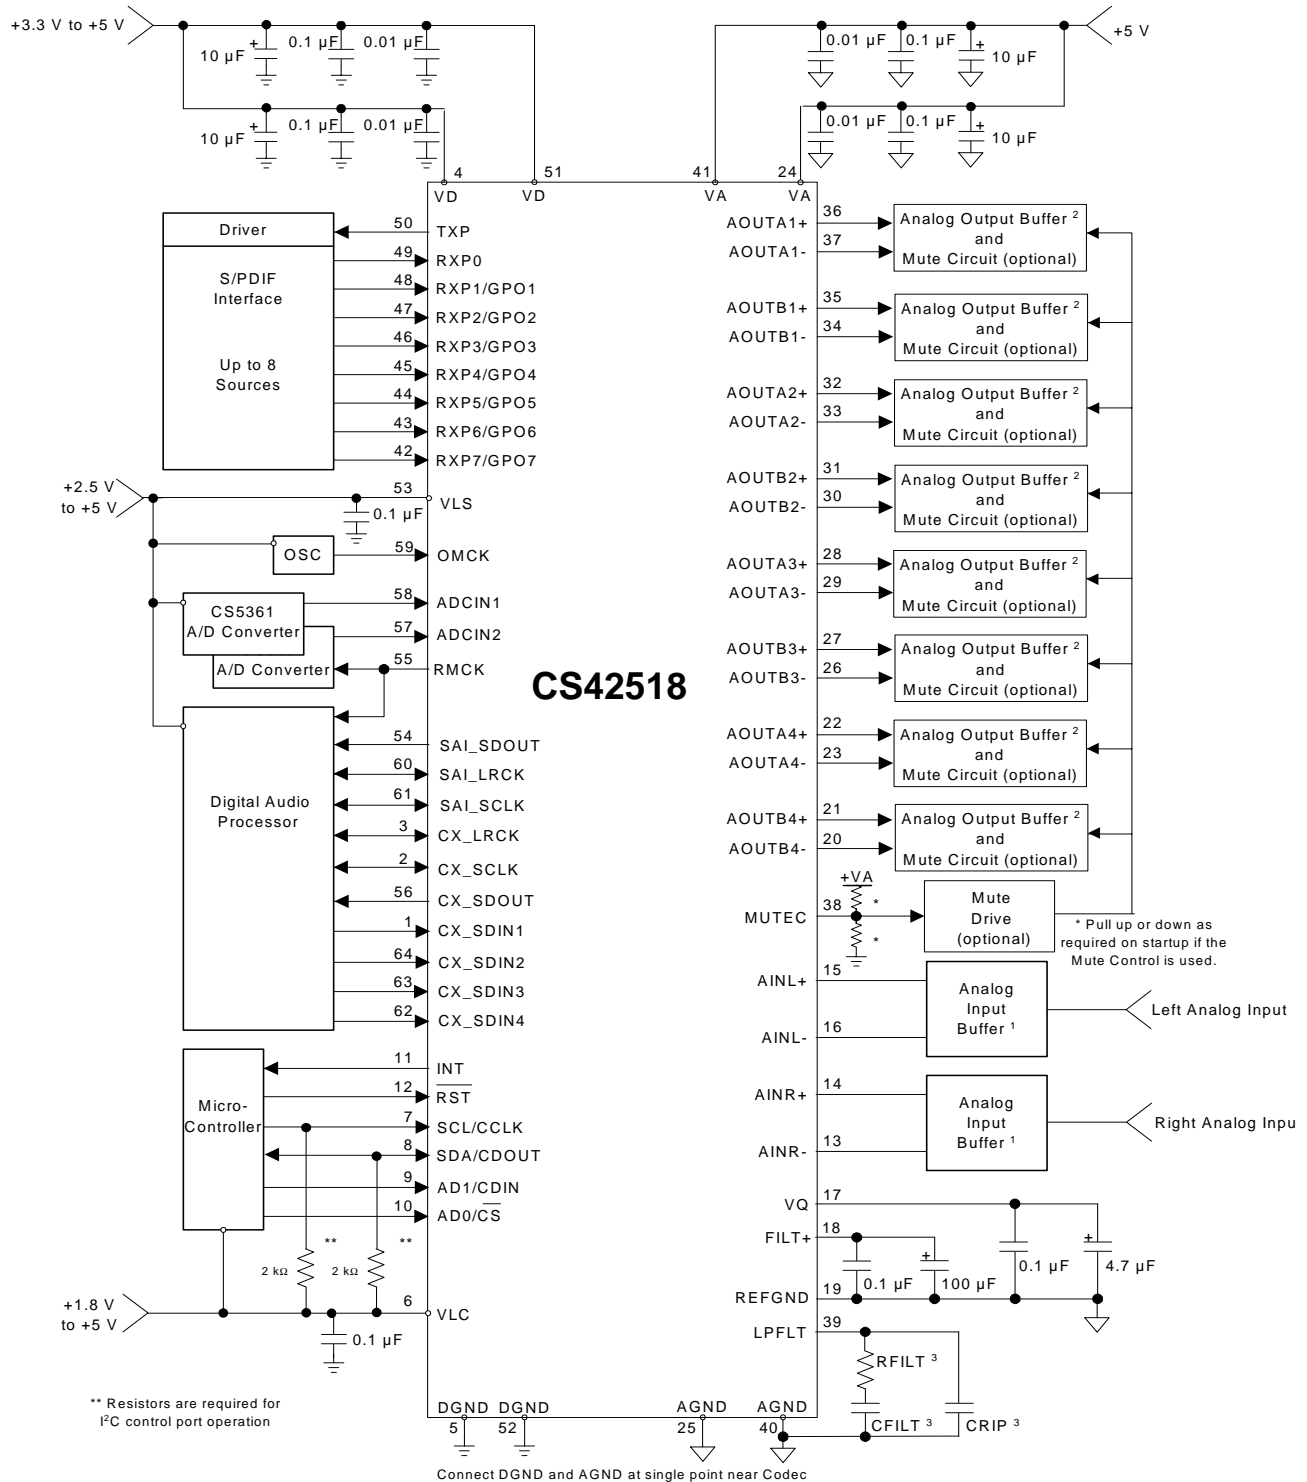

Figure 5. Typical Connection Diagram
25. Valid with the recommended capacitor values on FILT+ and VQ as shown in Figure 5.
The CS42518 is a highly integrated mixed signal 24-bit audio codec comprised of 2 analog-to-digital converters (ADC), implemented using multi-bit delta-sigma techniques, 8 digital-to-analog converters (DAC) and a 192 kHz digital audio S/PDIF receiver. Other functions integrated within the codec include independent digital volume controls for each DAC, digital de-emphasis filters for DAC and S/PDIF, digital gain control for ADC channels, ADC high-pass filters, an on-chip voltage reference, and an 8:2 mux for S/PDIF sources. All serial data is transmitted through two configurable serial audio interfaces with standard serial interface support as well as enhanced one line modes of operation allowing up to 6 channels of serial audio data on one data line. All functions are configured through a serial control port operable in SPI mode or in I²C mode. Figure 5 show the recommended connections for the CS42518.